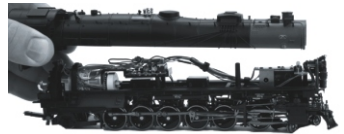

Figure 2
2. After removing the screws mentioned above gently remove the boiler from the chassis and set the boiler aside shown in Fig 2.